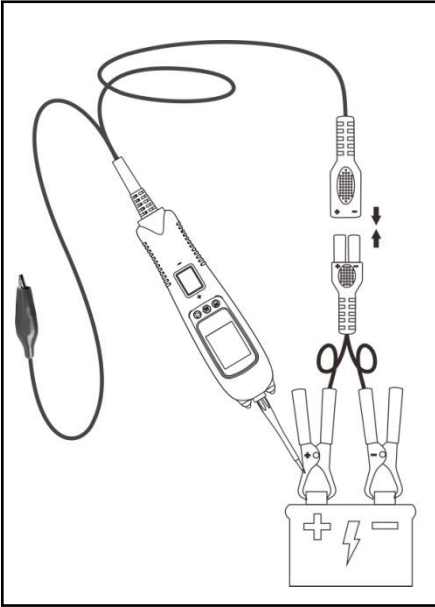
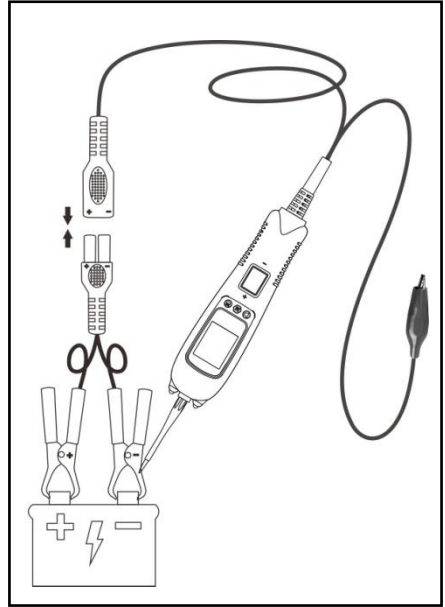

Figure 10
Figure 11
- 3) If contact the probe tip to a POSITIVE circuit (Figure 10), the red LED will light and the LCD displays the voltage with a highest resolution of 0.01V. A beep tone will sound. If contact the probe tip to a NEGATIVE circuit (Figure 11), the green LED will light and the LCD displays the voltage with a highest resolution of 0.01V. A beep tone will sound. If contact the probe tip to an OPEN circuit, neither of the LED will light.